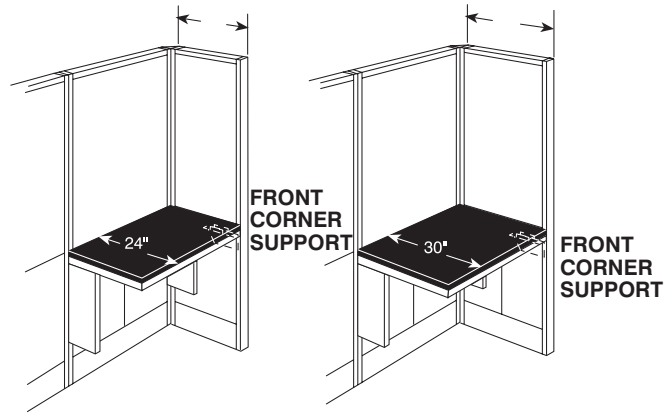

Figure 5
14. Front corner supports are used to help support cantilevered work surfaces and to stabilize island panels used at the end of a run. They can only be used when the work surface is equal to or deeper than the width of the island panel. See Figures 5 & 6.